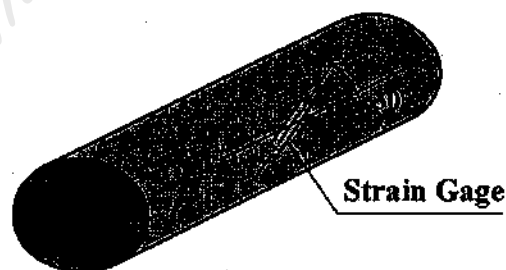

Figure 4
(4) A long closed thin cylindrical vessel with wall thickness,  $t$ , having an internal radius  $R$  is internally pressurized to a gage pressure  $p$ . If a strain of  $10^{-3}$  is recorded by a gauge at  $30^\circ$  to the axis of the cylinder, as shown in Figure 4, calculate (a) the pressure  $p$  and (b) the percentage change in the radius of the container at the axial location of the strain gage. Take Young's modulus as  $E$  and Poisson's ratio as  $\nu$ .